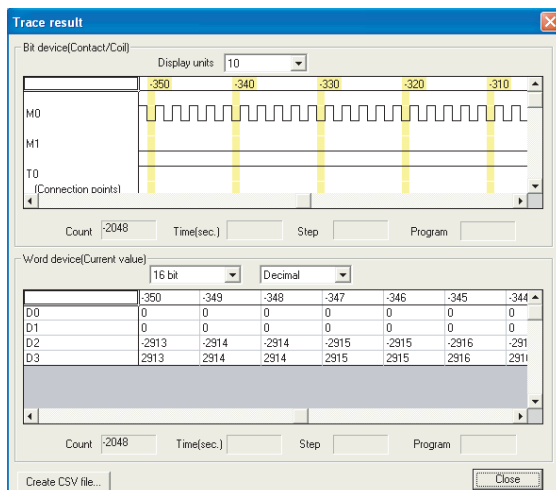

Figure 6.71 Trace result screen
- Click the Create CSV file button on the screen shown in Figure 6.71 to save the trace result in CSV format.